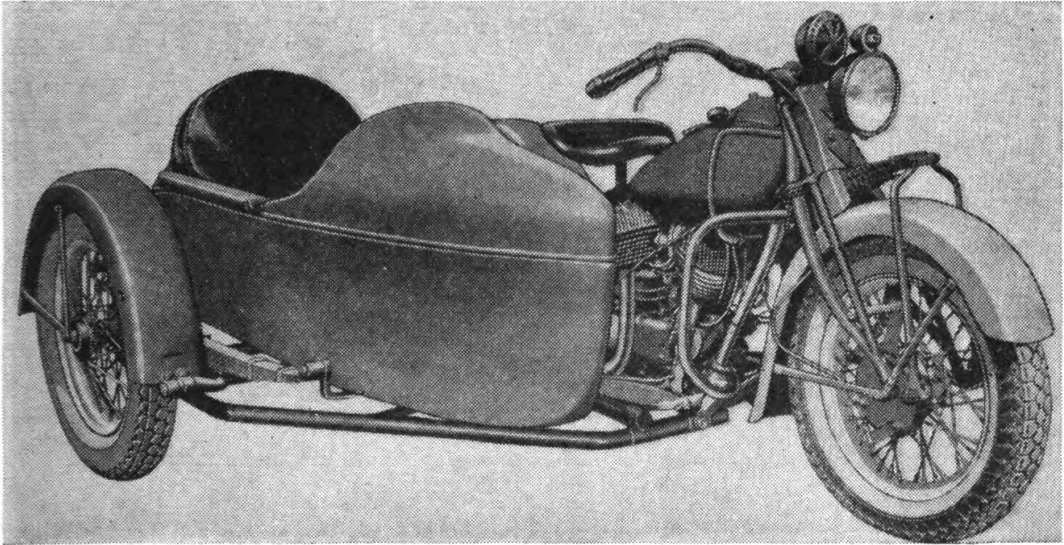
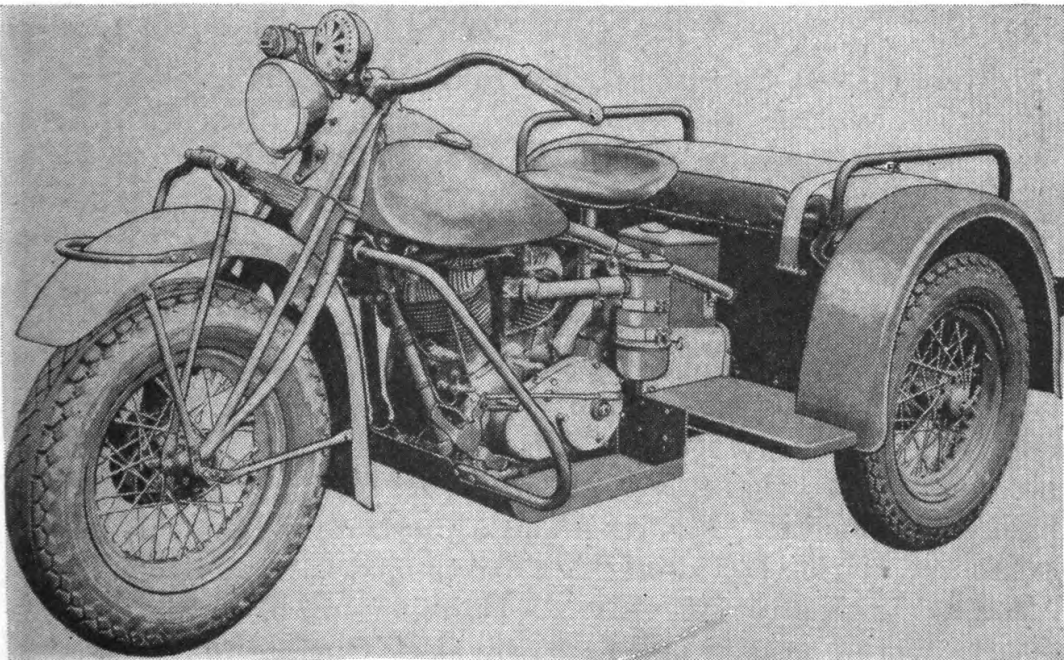

FIGURE 2.—Motorcycle with side car (chassis type—3 x 1).
FIGURE 3.—Motor tricycle (chassis type—3 x 2).
*e.* There are two variations of the motorcycle still in service: motorcycle with side car (fig. 2); and motor tricycle (fig. 3).